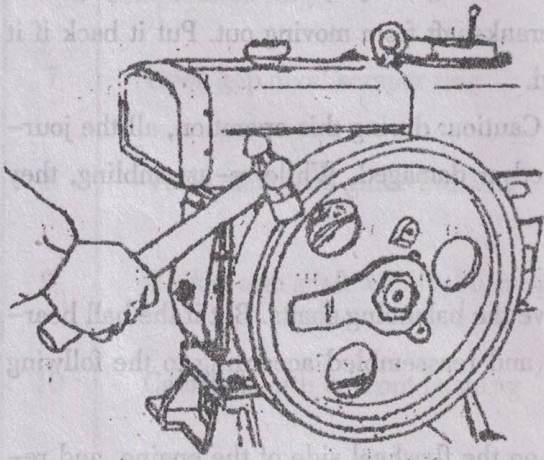

Fig. 19 Loosening the flywheel nut by knocking the handle of the wrench with a hammer
3. Loosen the flywheel nut by means of a special wrench (knock the handle of the wrench with a hammer counter-clockwise, if necessary.), but do not screw it off (Fig. 19).